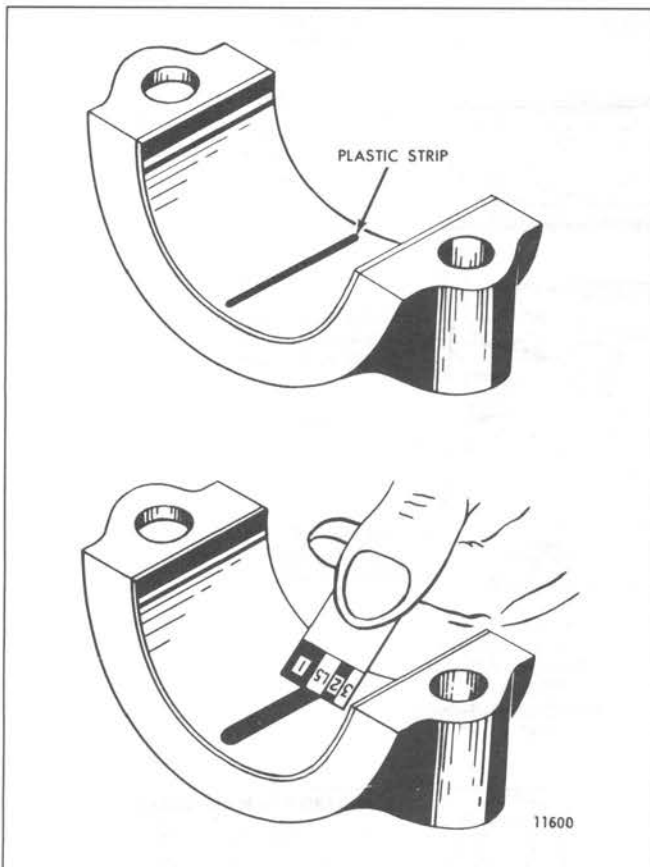

Fig. 14 - Using Plastic Strip to Measure Bearing-to-Crankshaft Clearance
2. Place a piece of the plastic strip the full width of the bearing shell, about 1/4" off center (Fig. 14).
5. Compare the width of the flattened plastic strip at its widest point with the graduations on the envelope (Fig. 14). The number within the graduation on the envelope indicates the bearing clearance in thousandths of an inch. Taper may be indicated when one end of the flattened plastic strip is wider than the other. Measure each end of the plastic; the difference between the readings is the approximate amount of taper.